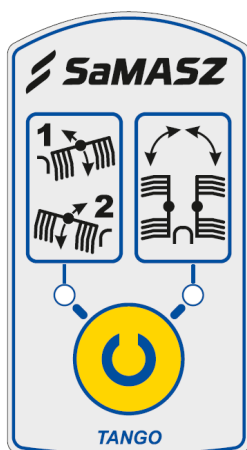

Fig. 9. Control panel
Controller (**Fig. 9**) enables switching the rake's working units to working position (lowering) and transport position (lifting). During the machine operation, if diode (1) is lit the sequential lifting and lowering of working units function is enabled. Button (C) is for switching between the panel functions. Once button (C) is pressed the diode (1) goes off, a diode (2) will light up to indicate deactivation of sequential lifting and lowering function and thus activation of folding the machine for transport and unfolding it for operation function. Once this option is enabled the working units will fold and unfold steadily. **Note: once diode (2) lights up the function remains active for 60 seconds.** This time is sufficient to fold the machine to transport position or unfold it to working position. As the 60 s time elapses the panel will go to sequential operation mode.